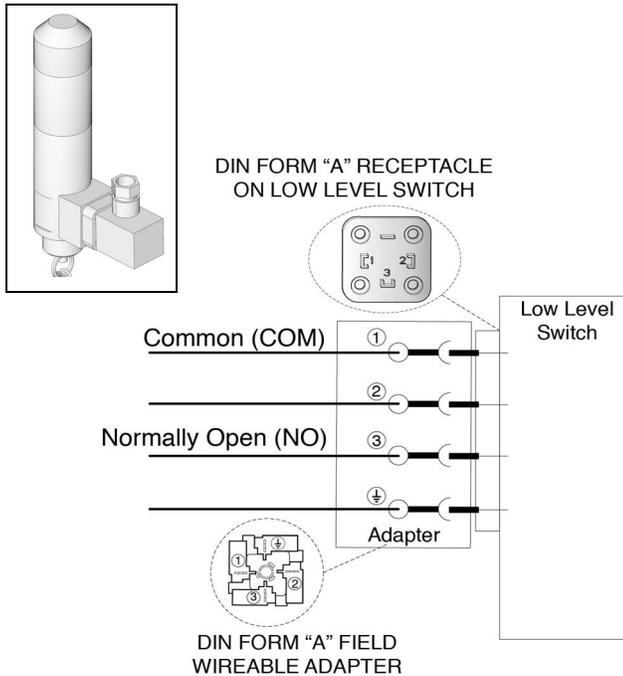

FIG. 14
1. Connect the DIN connector on the Low Level Indicator to the (user supplied) alarm device. Connection is made to PINS 1 and 3 of the DIN, Form "A" Field Wireable Adapter. See FIG. 14.